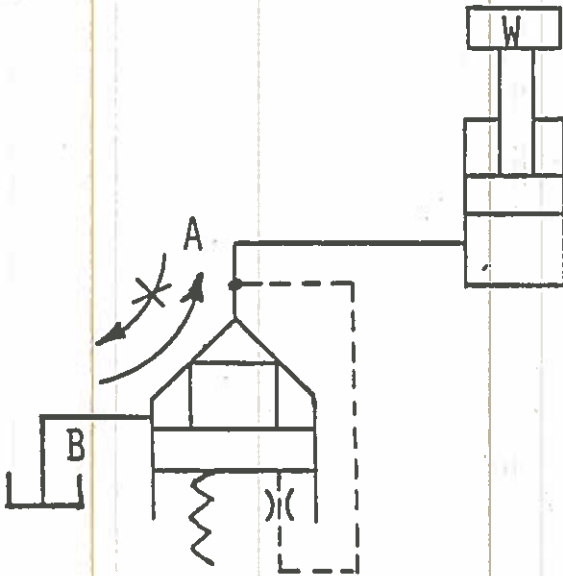

Figure 1
7. Figures 1 and 2 show a cartridge valve connected in the circuit as a non-return check valve. Which circuit will prevent cylinder creep due to valve leakage?
- a) Figure 1.